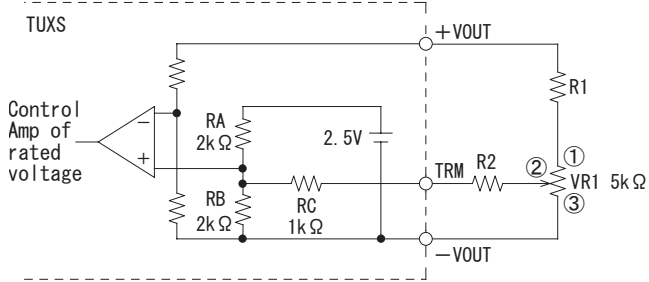

Fig. 3.1 Output voltage control circuit
(1) Output voltage adjusting
■By connecting the external potentiometer (VR1) and resistors (R1,R2), output voltage becomes adjustable, as shown in Fig.3.1, recommended external parts are shown in Table 3.1.